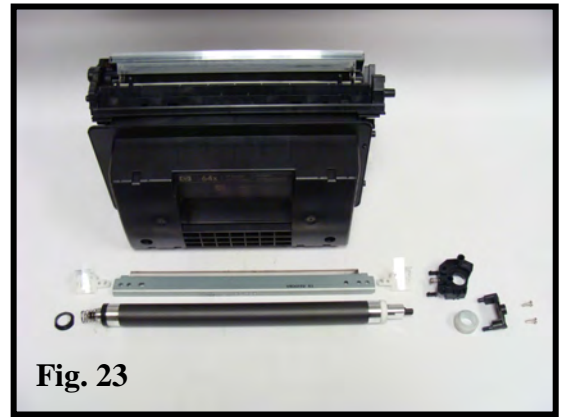

Fig. 23
23. Insert fill plug and fill the toner hopper with the appropriate gram load of toner. Clean (or replace) the mag roller and doctor blade with dry compressed air. Add a small amount of conductive grease to the mag contact plate and assemble in reverse order (Fig. 23)